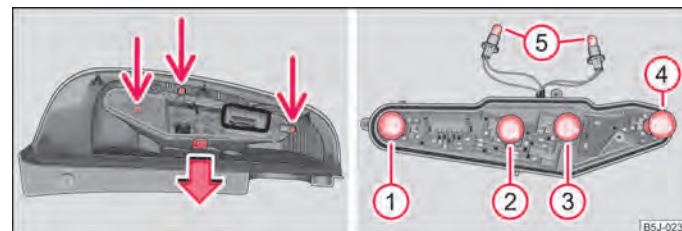

Fig. 161 Remove the middle part of the light/Fitting position of the bulbs ▶
- Unscrew the middle part of the light and slacken the interlock in order to reach the bulbs ⇒ fig. 161 - left.
- To replace the bulb of the parking light, turn the fixture of the bulb ⑤ to the left up to the stop (in the direction of the arrows on the housing) and take the fixture out of the housing ⇒ fig. 161.
Fitting position of the light bulbs in the rear light unit ⇒ fig. 161 on the right.